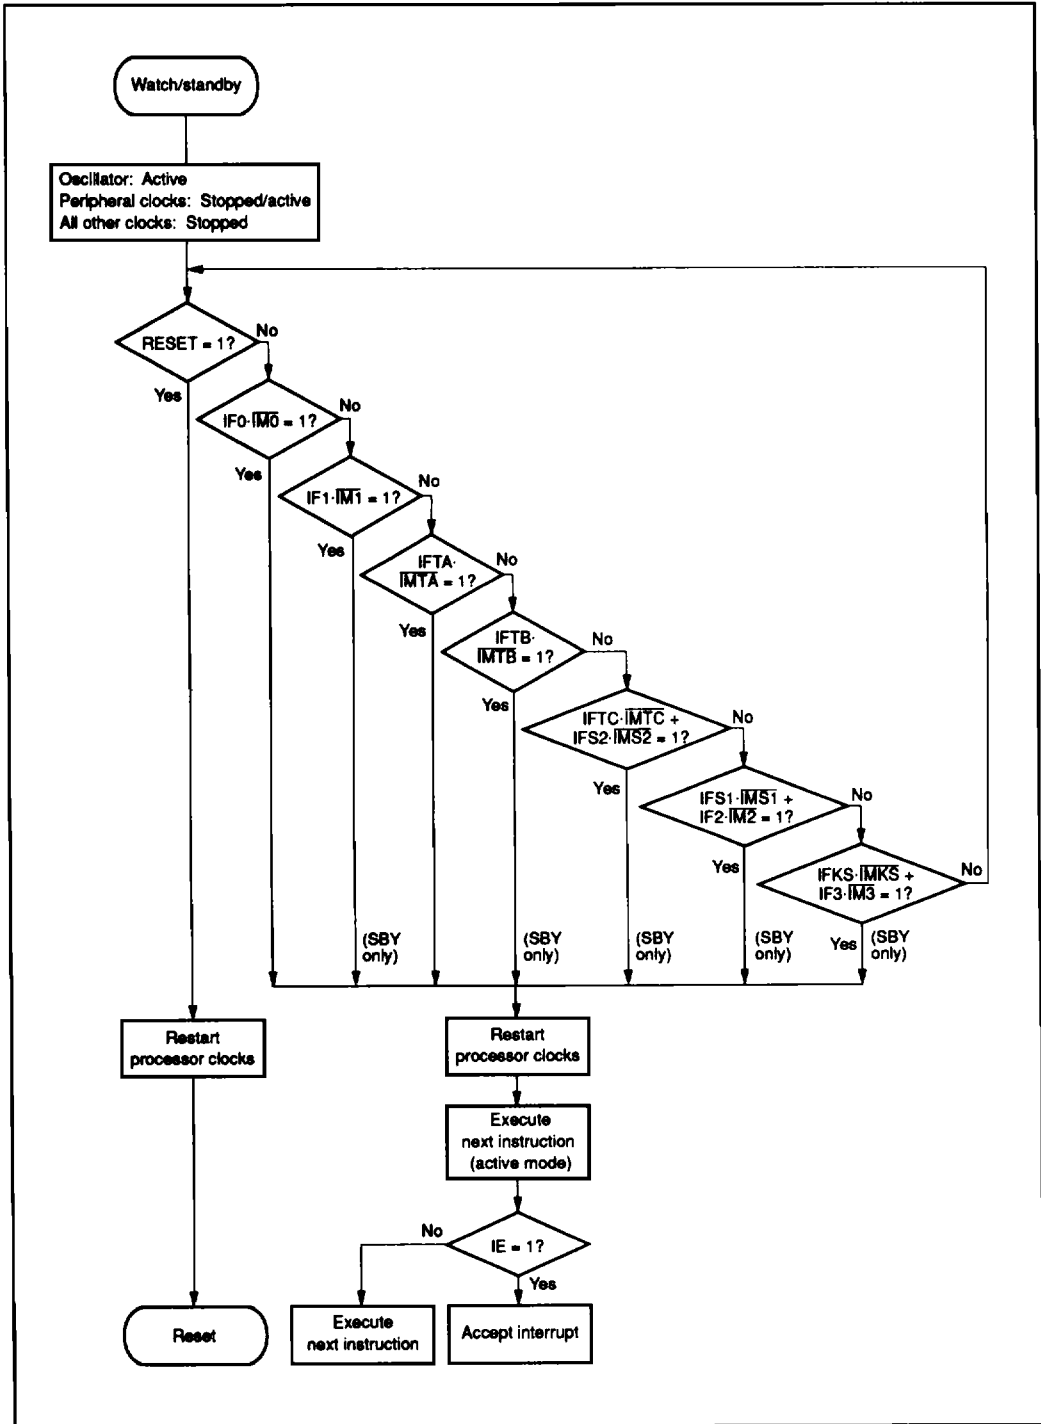
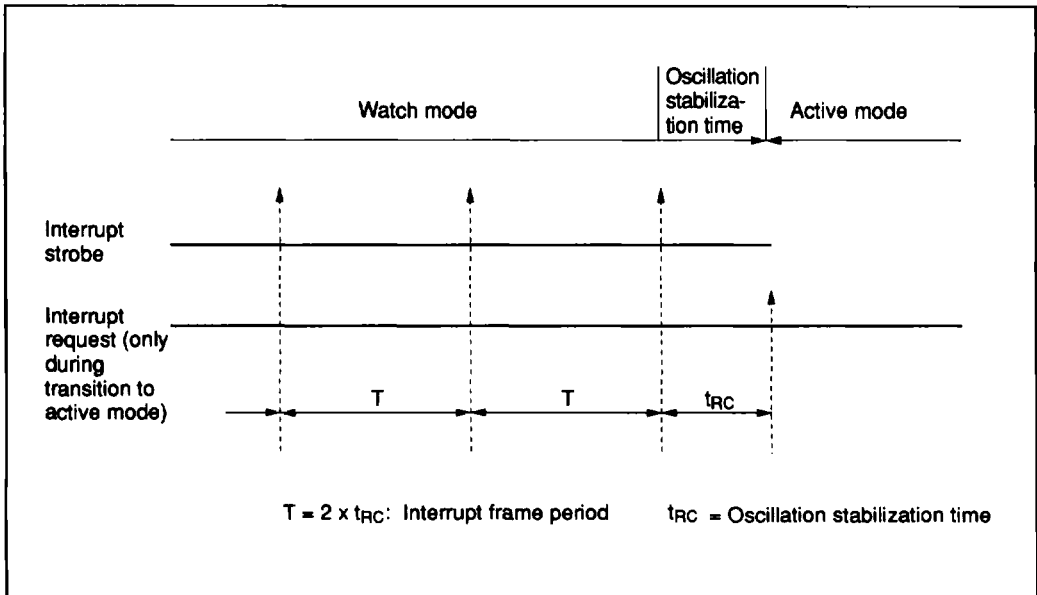

Figure 15 Flowchart of Watch and Standby Modes
Figure 17 Interrupt Frame
Standby mode may be cancelled by inputting RESET or by asserting an interrupt request. In the former case the MCU is reset. In the latter case, the MCU becomes active and executes the next instruction following the SBY instruction. If the interrupt enable flag is 1 when an interrupt request is asserted, the interrupt is executed, while if it is 0, the interrupt request is put on hold and normal instruction execution continues. A flowchart of operation in standby mode is shown in figure 15.
The watch mode is terminated by a RESET input or a timer-A/ \overline{INT}_0 interrupt request. For details of RESET input, refer to the Stop Mode section. When terminated by a timer-A/ \overline{INT}_0 interrupt request, the MCU enters active mode if LSON is 0 or subactive mode if LSON is 1. Any interrupt request generated for the transition to active mode is delayed for half the interrupt frame period (t_{RC}) to give the oscillation time to stabilize (figure 17). Operation during mode transition is the same as that at standby mode cancellation (figure 15).
Interrupt Frame: In watch and subactive modes, Φ_{CLK} is supplied for timer A and the \overline{INT}_0 circuit. Prescaler W and timer A operate as time bases to generate interrupt frame timing. Three interrupt frame cycles (T) can be selected by the settings of miscellaneous register 1, as shown in figures 17 and 18.